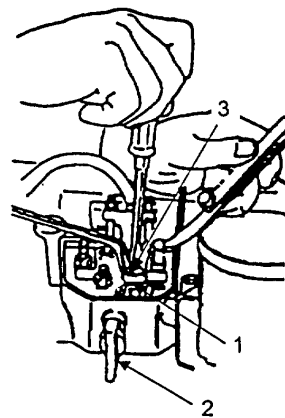

FIGURE 5-31. TAPPET ADJUSTMENT
c. Check clearance between rocker and valve stem with a feeler gauge. Tappet clearance cold should be 0.004 Inch (0.10 mm). To correct clearance, loosen nut (2).
d. Adjust screw (Figure 5-31, Item 3) with a screwdriver until feeler gauge can be pulled between rocker and valve stem with very slight resistance after nut (2) has been tightened